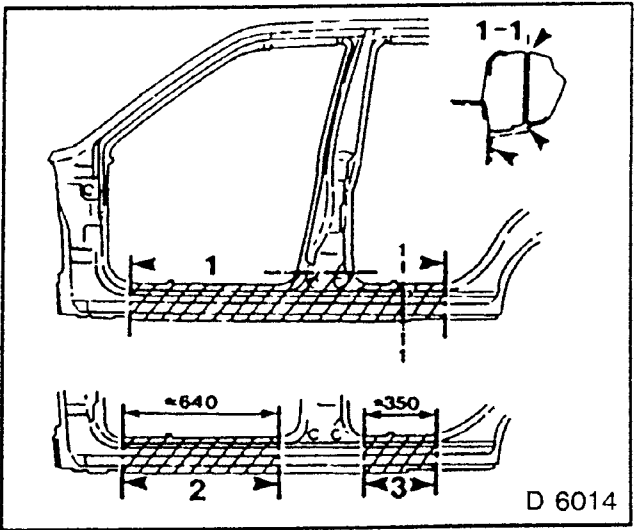

Fig. 65
- 4. Fig. 65 shows separation line.